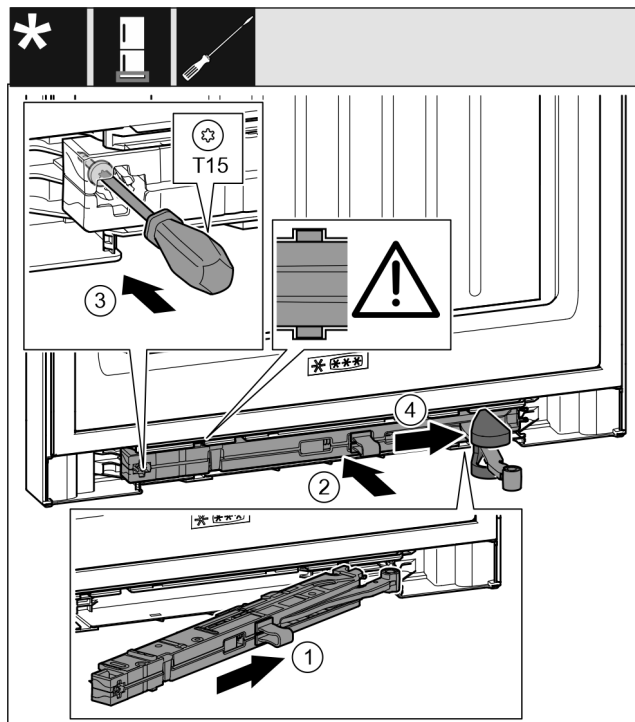

Fig. 34
- On the swap bearing block side, slide the closing damper unit Fig. 34 (1) into the recess at an angle up to the stop.
- Push the closing damper unit Fig. 34 (2) into the recess completely.
- Use a screwdriver to tighten the screw Fig. 34 (3).
- Push the cover Fig. 34 (4) over the joint.